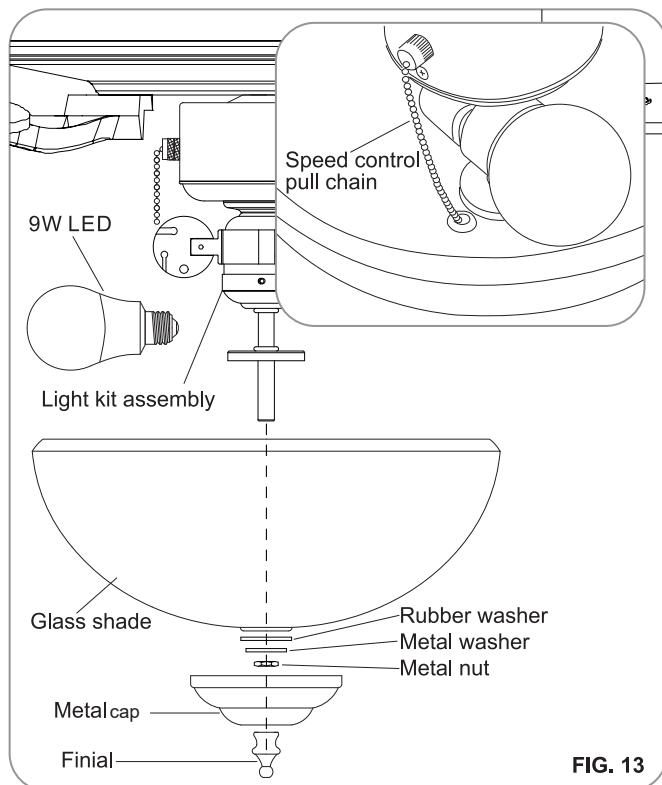

FIG. 13
Step 1. Install 2*9W E27 LED (included) into socket.(Fig.13)
Step 2. Remove the rubber washer, metal washer and metal nut from the light kit assembly. Place glass shade over the light kit stem, secure with the rubber washer, metal washer, metal nut, metal cap and finial provided from loose parts bag. Adjust the glass shade to avoid the speed control pull chain touches the bulb. Do not over tighten. (Fig.13)